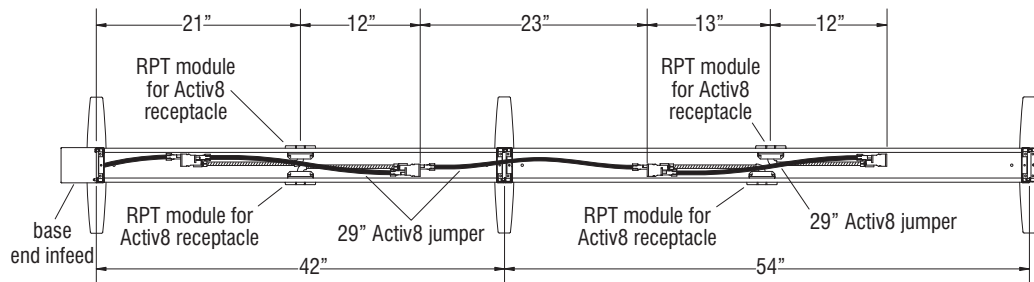

Figure 1 - 24"-54" Single Chase Unit with All Receptacle Locations
- Single Chases (24"-54" length) with Activ8 receptacles in all outlets utilize 29" jumpers (Figure 1).